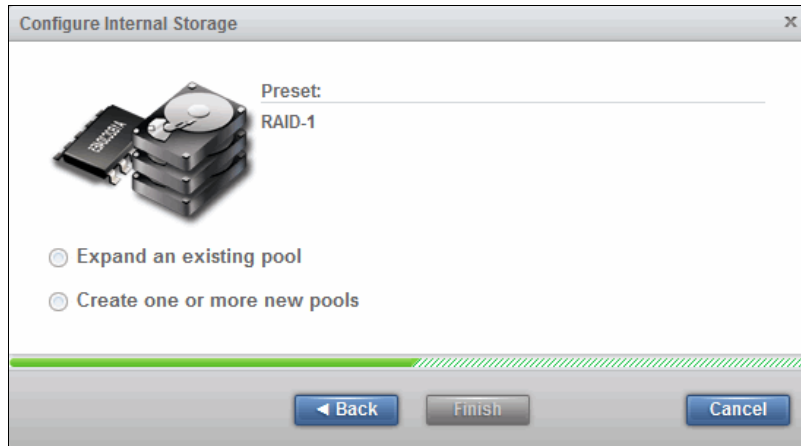

Figure 3-65 Configure Internal Storage wizard: Pool allocation
3. Figure 3-65 shows allocating the internal storage to a pool.